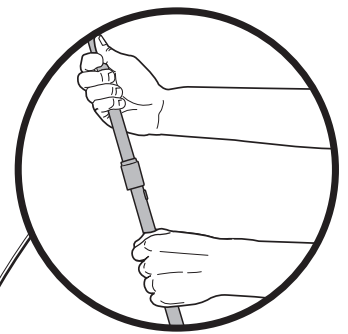

Fig. 6
- Lower the frame one leg pole at a time by pushing the lock buttons and collapsing the telescoping leg poles. (Fig. 6)